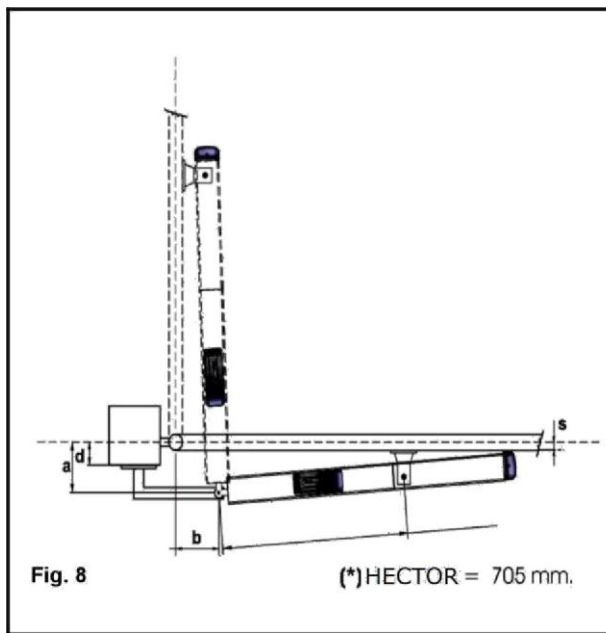

Fig. 8
3.3 FASTENING THE HYDRAULIC ACTUATOR WITH OUTDOOR OPENING (Fig.8)